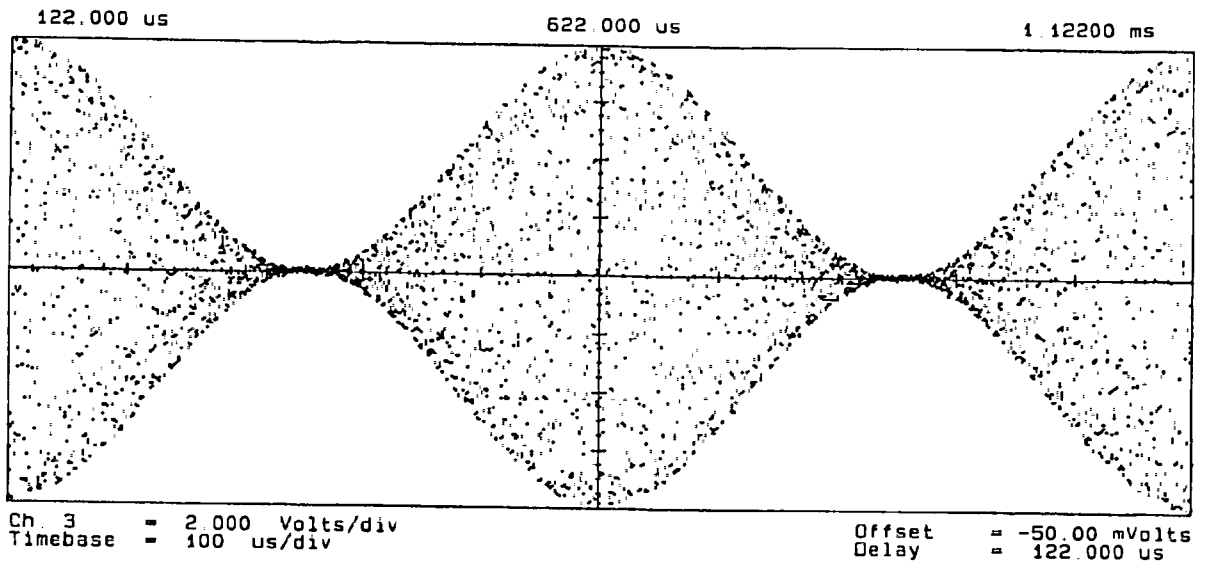
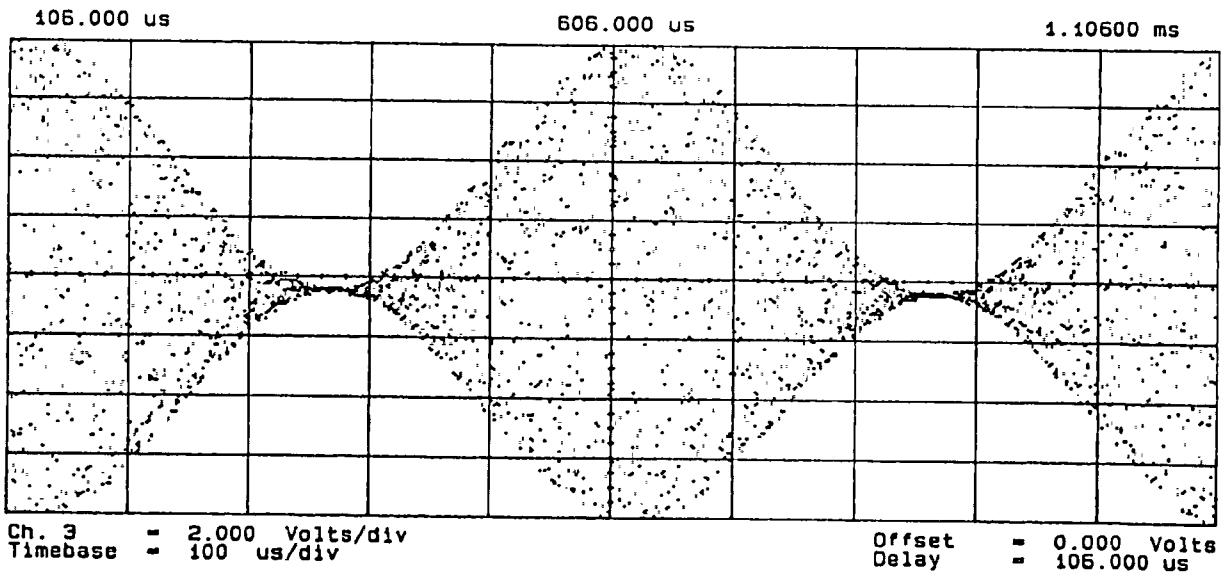

Figure 9-6. 100% Amplitude Modulation with Correct Offset
Figure 9-7. 100% Amplitude Modulation with Incorrect Offset
20. Adjust the function generator amplitude and offset until the HP 8116A has 100% modulation and minimum offset as shown in Figure 9-6. Figure 9-7 shows an incorrectly adjusted example.